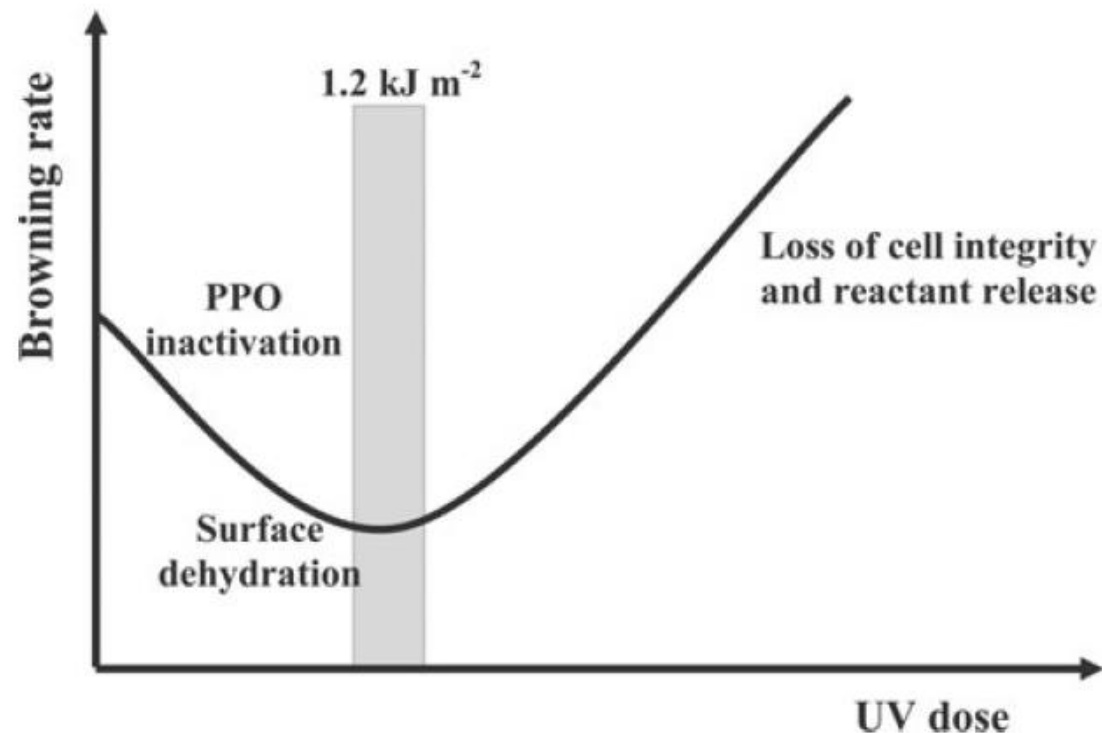

Figure 5 Schematic representation of the effect of UV dose on the events conditioning browning rate during storage of fresh-cut apple.
Fig. 5. Changes in *E. coli* O157:H7 populations during disinfection of process wash water by different free chlorine (FC) concentrations under increasing chemical oxygen demand. Results are means of at least two repetitions \pm standard deviation.